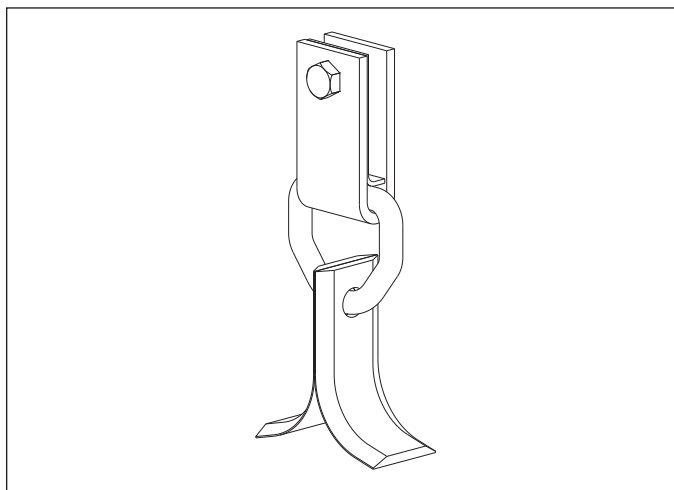

Figure 4-10: Side Slice Assembly
- **Side Slice Knives** are reversible for longer life. These knives have more cutting edge available to the crop for finer cutting. **See Figure 4-10.**